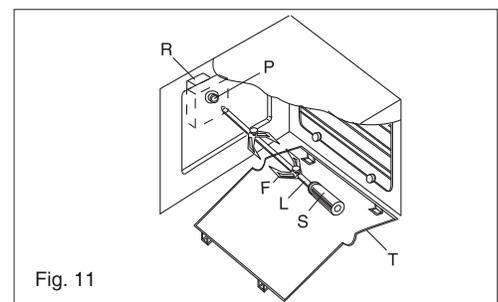

Fig. 11
50 ÷ 200	<p>Total grill heating element  or (turnpit motor according to the models, see Fig.11).</p> <p>It is indicated for cooking on the spit, grilling and gratinating.</p>
<p>50 ÷ 200</p>	<p>Total grill heating element  or (turnspit motor according to the models, see Fig.11). It is indicated for cooking on the spit, grilling and gratinating.</p>
- Fit the end of the spit into the motor **M** at the back of the oven (fig.11).